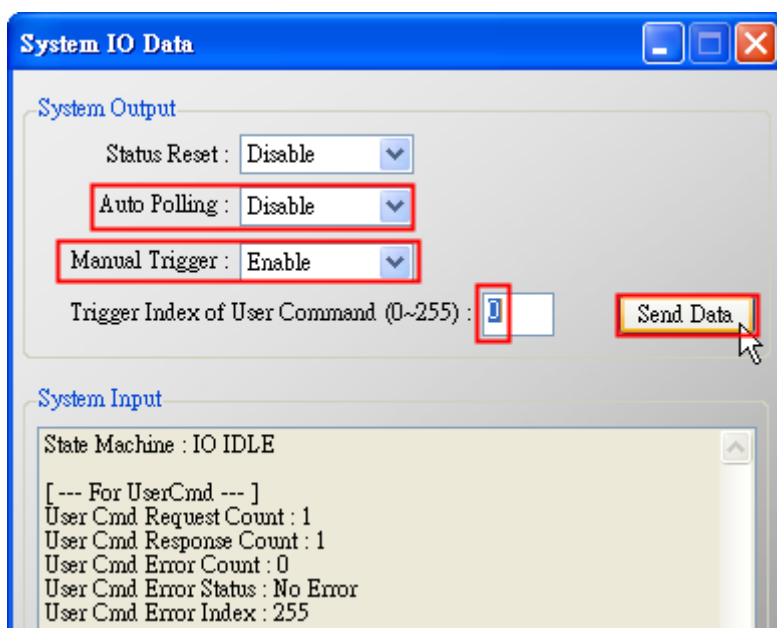

Figure 12-6 : The “I/O Data” screen of System
(4) Right click on the “System” item and choose the “Basic Operation”.
(5) After finish the below settings, click “Send Data” button to send the UserCMD(6) to HART device. (Figure 12-6)